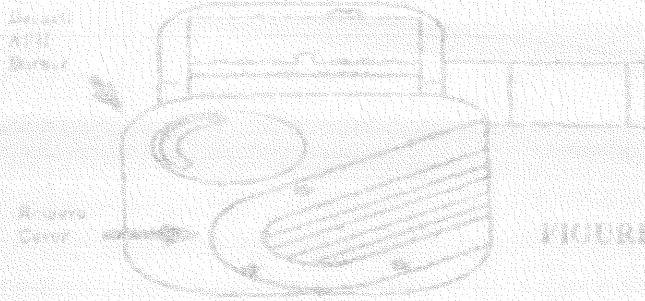

FIGURE 1
- Step 1: Remove bumper (left only). See Figure 1.